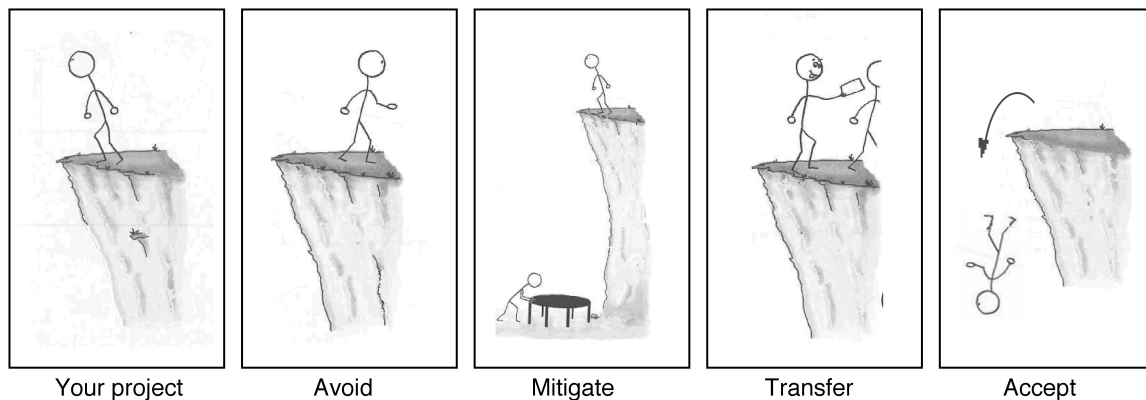

Figure 11.22: Potential ways to handle risk in a project.
If your project requires that you stand on the edge of a cliff, then there's a risk that you could fall (Figure 11.22). If it's very windy out or if the ground is slippery and uneven, then falling is more likely.
1. **Avoid:** The best thing that you can do with a risk is to avoid it. If you can prevent it from happening, it definitely won't hurt your project. The easiest way to avoid this risk is to walk away from the cliff (Figure 11.22), but that may not be an option on this project.
2. **Mitigate:** If you can't avoid the risk, you can mitigate it. This means taking some sort of action that will cause it to do as little damage to your project as possible (Figure 11.22).
3. **Transfer:** One effective way to deal with a risk is to pay someone else to accept it for you (Figure 11.22). The most common way to do this is to buy insurance.
4. **Accept:** When you can't avoid, mitigate, or transfer a risk, then you have to accept it (Figure 11.22). But even when you accept a risk, at least you've looked at the alternatives and you know what will happen if it occurs. If you can't avoid the risk, and there's nothing you can do to reduce its impact, then accepting it is your only choice.